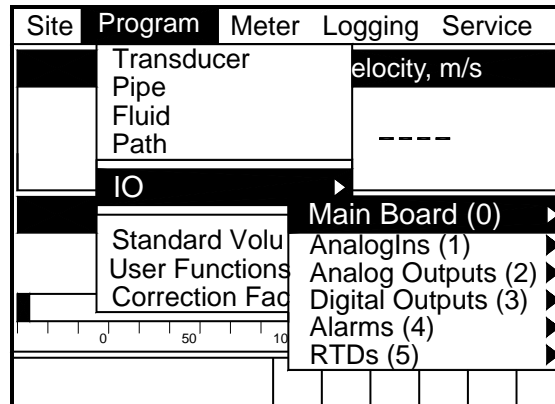

Figure 1-15: Input/Output Option Window
The Analog Input option enables you to specify parameters for general purpose inputs. To enter the Inputs option, scroll to the Input/Output (IO) entry on the Program Menu and press [ENTER]. The screen appears similar to Figure 1-15 below. To step through each parameter, press the [▼] key. Refer to the *Program Menu Map*, Figure 1-36 on page 1-39.